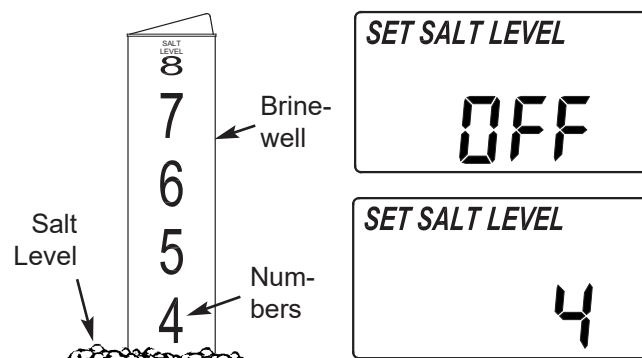

FIG. 21
2. The salt level scale, on the brinewell inside the tank, has numbers from 0 to 8 (See Fig. 21). Observe the highest number the leveled salt is at, or closest to.